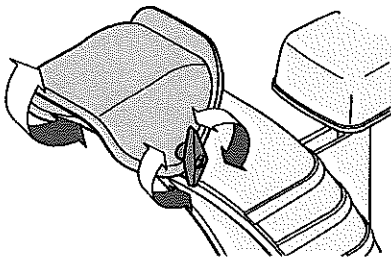

Figure 2-37
1. Loosen wing knob found on left side of chute assembly. See Figure 2-37.